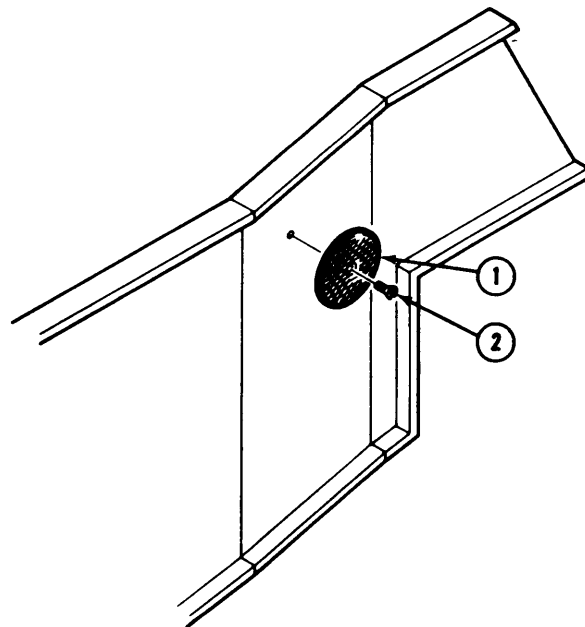

Figure 5-5. Reflector Assembly
a. Insert mounting bolts (6) through the holes in mounting plate (5) and frame bracket (8).
b. Thread locknuts (7) onto the ends of bolts (6). Tighten by hand.
c. Place a 3/4 inch box wrench on locknuts (7) and a 3/4 inch socket and ratchet over bolts (6) and tighten securely.
5.5.4 Reflector Assembly (Fig. 5-5)